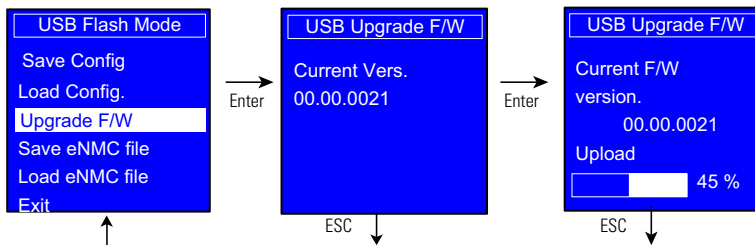

Figure 77. Example Upgrade in Progress
- A few seconds after 100% is reached, the eNMC module restarts and then enters in Boot upgrade mode to continue upgrade. The upgrade is finished when eNMC module is restarted. This can take several minutes (see Figure 77).